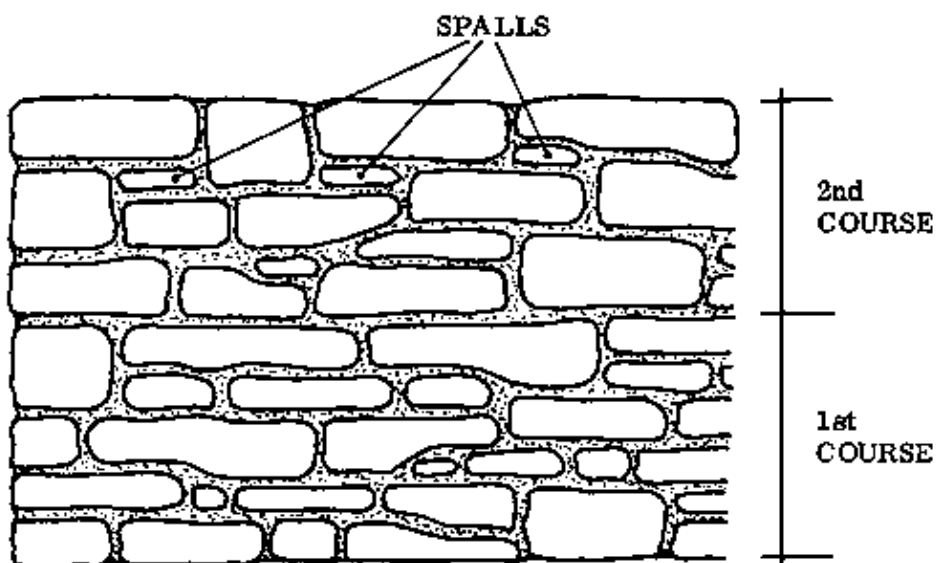

Fig. 1 ROUGH STONE MASONRY
– **ROUGH STONE MASONRY:** This sort of masonry consists of natural stones which are shaped only slightly along their bed faces, or not shaped at all. As in boulder masonry, regular courses are not seen because of the irregularly shaped stones (Fig. 1).